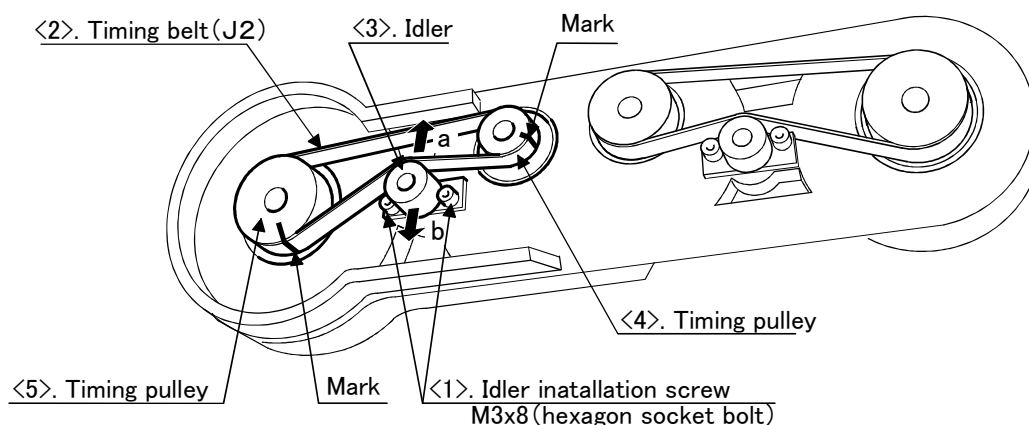

Fig.5-6 : Inspection, maintenance and replacement of J2-axis timing belt
- 1) Fig. 5-6 shows the methods for inspecting, adjusting and replacing the timing belt.
- 5) Make marks on the timing belt <2> and timing pulleys <4> and <5> with a felt-tip pen as shown in Fig. 5-6 so that the engagement of the timing belt <2> and timing pulleys <4> and <5> does not deviate.
- 9) Refer to steps "3)" to "6)" in "■ Adjusting the J2 axis timing belt" and "(6) Timing belt tension" to adjust the tension.